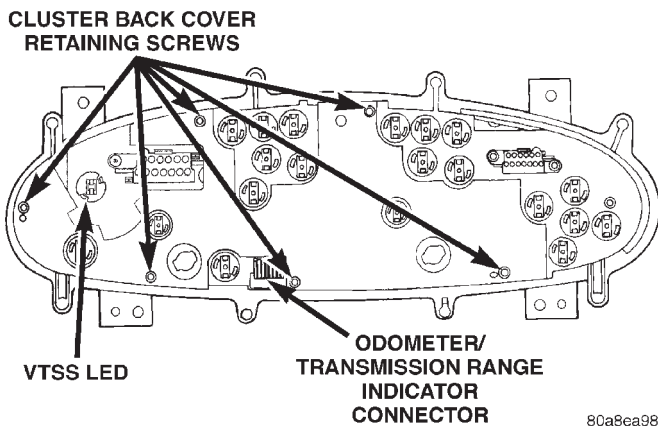

Fig. 12 Back Cover Retaining Screws
- (2) Disconnect odometer/transmission range indicator connector from the printed circuit board (Fig. 12).